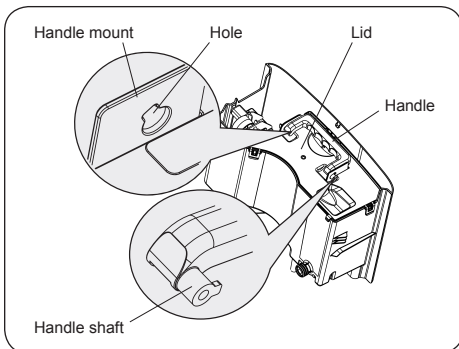

FIG. 7 – Removing the bucket handle
1. Position the shaft of the handle so that its particular shape is aligned with the same shaped hole on the handle mount (as shown in Fig. 7). Simultaneously pull on the mounts to free the handle and remove it.